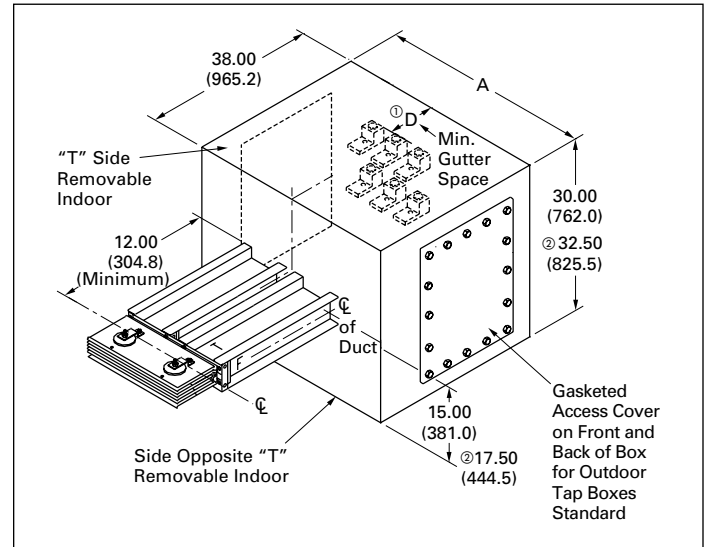

Figure 24.1-24. End Cable Tap Box
See Figure 24.1-24
③ For compression lugs, factory provides provisions only.
④ All dimensions shown in Figure 24.1-24 remain constant regardless of system wiring configuration.
⑤ Denotes quantity of terminals per ground bus.
⑥ Denotes quantity of terminals per phase and 100% neutral bus.
⑦ Denotes quantity of terminals per 200% neutral bus option.